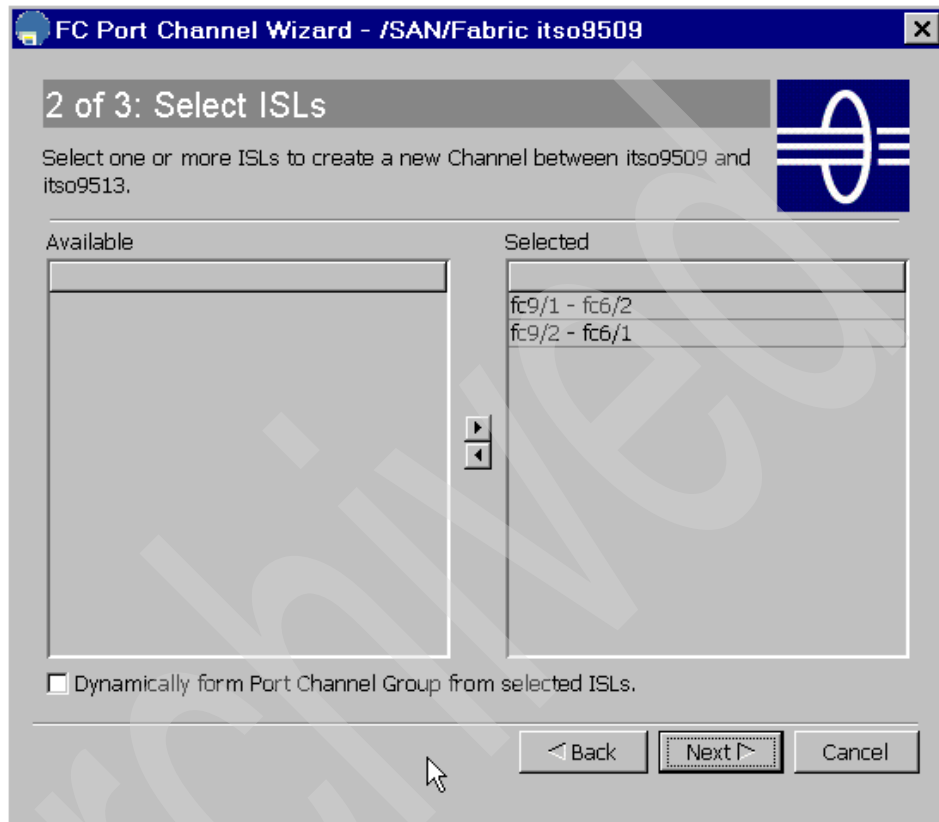

Figure 37 PortChannel ISL selection panel 2
4. The box to Dynamically form Port Channel Group from selected ISLs is not selected because we want to designate the FICON Port address ourselves. To proceed with the configuration of the PortChannel, click **Next** (Figure 37).